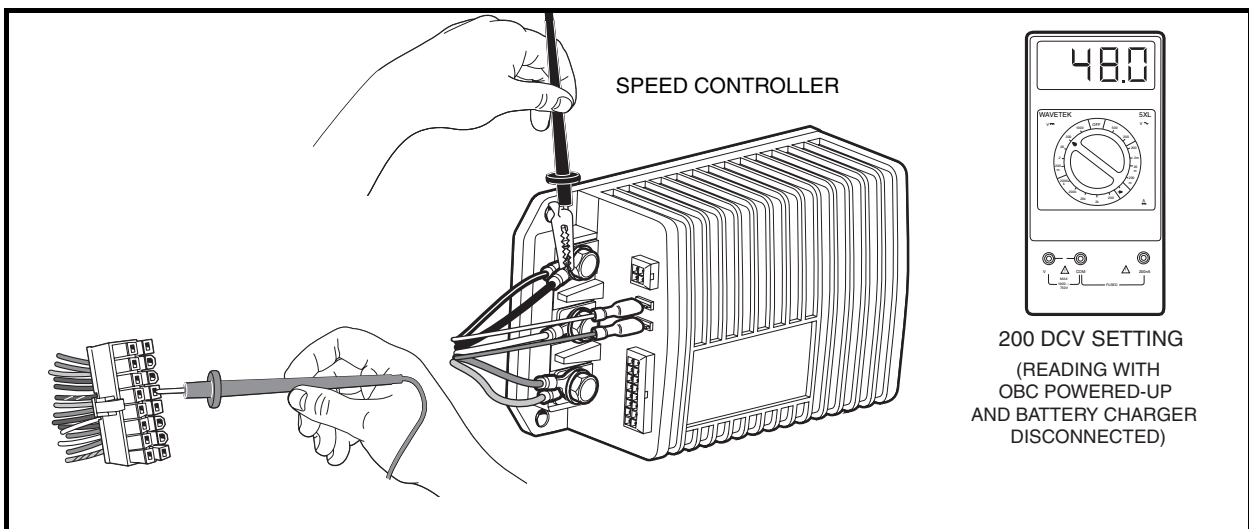

Figure 18-10 Pin 5 Test
4. Set a multimeter to 200 volts DC. Insert the red (+) probe of the multimeter into pin 5 (light blue wire) of the 16-pin connector. **See following CAUTION.** Using an alligator clip, connect the black (–) probe to the B– terminal of the speed controller (**Figure 18-10, Page 18-21**).